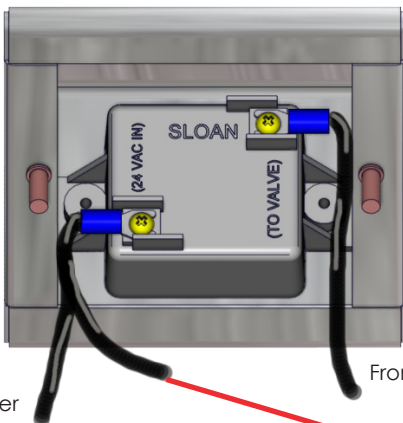

Fig. 12: Connect 3 wires - Left IR sensor
10. Reconnect the wire ends to the IR sensors. Looking from the back of the sink, reconnect the 3 wires of the left IR sensor as shown in Fig. 12. The 3rd wire will connect to the right IR sensor (red arrow).